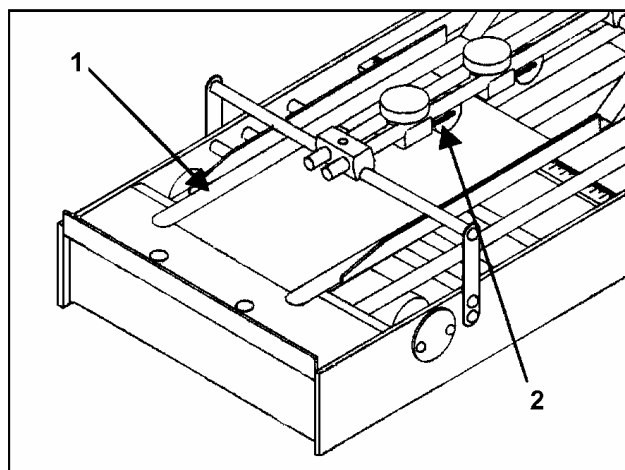

Figure 10
**EXAMPLE: For No. 10 envelopes, use three (3) tapes. One over the stop guides approx. 3/8" (1 cm) from the springs, one over the push guide approx. 1/4" (6 mm) from the right edge and one tape under the skid wheel. For wider envelopes use additional tapes as needed.**
19. Adjust the retainer straps [#1, Fig. 10] over the stop and push guide tapes.
20. When the envelope is against the front stop plate, position the front skid wheel [#2, Fig. 10] so it is lightly touching the trailing edge of the envelope.